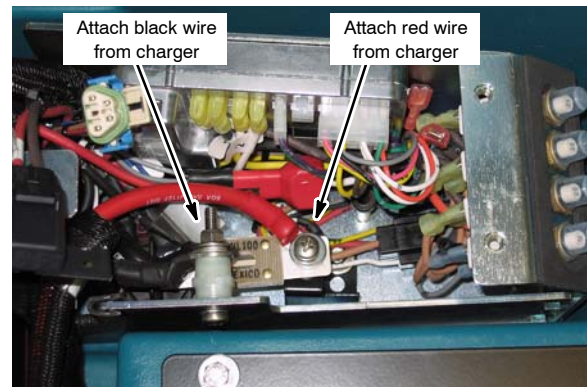

Fig. 6
- Route the red and black charger wires forward to the control box and attach them where the old charger plug wires were removed. Take special care to properly re-tighten all hardware. Loose connections will cause electrical damage to the machine. Re-attach control box cover (Figure 6).